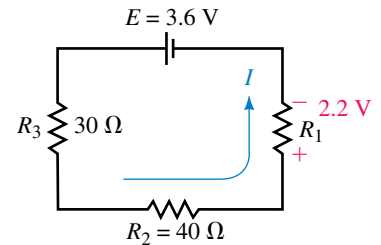

FIGURE 5-70
16. Refer to the circuit of Figure 5-70: